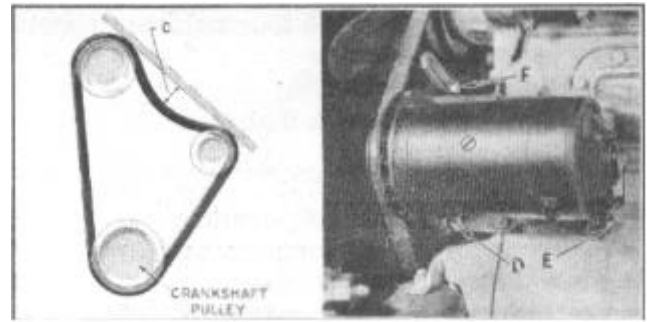

FIGURE 6
1. Loosen the two generator bracket bolt nuts (D) and (5) and adjusting arm bolt (F), Figure 6.